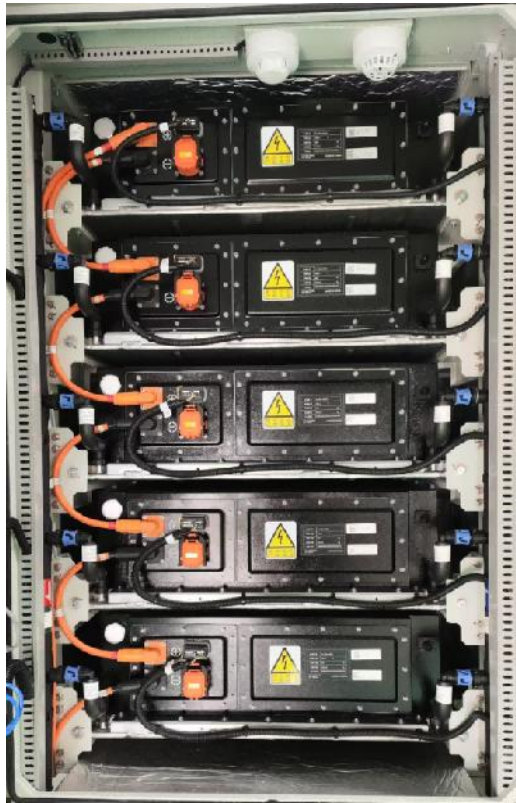

Figure 7.11 Installation Status of Battery Clusters
(6) Install the new battery cluster into the storage cabinet as shown in Figure 7.11.
(7) Reconnect the battery cluster power harness, communication harness, and liquid cooling lines to complete the battery cluster installation, as shown in Figure 7.11.